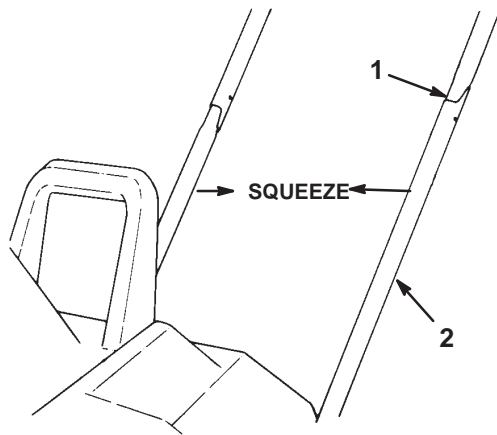

Figure 2
2. Carefully insert the right side of the upper tubing over the end of the lower right side tubing (Fig. 2).
3. Carefully insert the left side of the upper tubing **into** the end of the lower left side tubing (Fig. 2).
4. Squeeze the upper tubes together, and wiggle the upper tubes down until the mounting holes in the upper and lower tubing line up (Fig. 2).